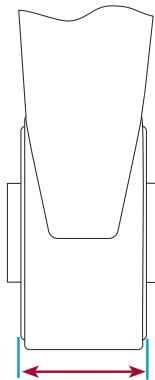

Figure 6: Narrow 3" (75 mm) bush for AANT & AANL
- The narrow bush is 3 inches (75 mm) wide, refer Figure 6.